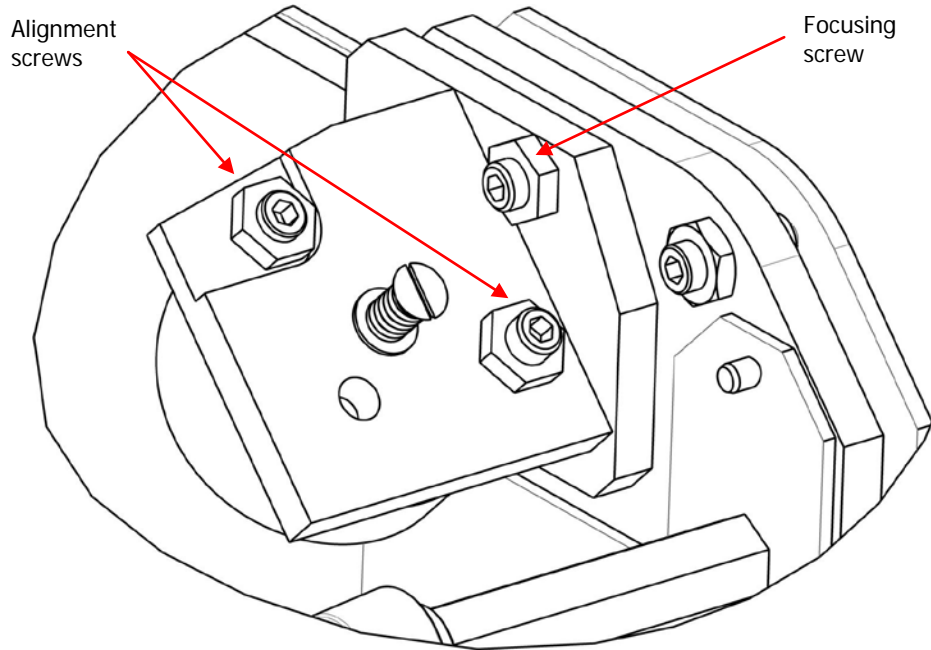

Figure 9 Adjustment screws for mirror C1
Only adjust the alignment screws at this stage, *not* the focusing screw which lies horizontally (Figure 9).
1. Turn the focusing screw on mirror C1 a quarter of a turn clockwise (Figure 9).